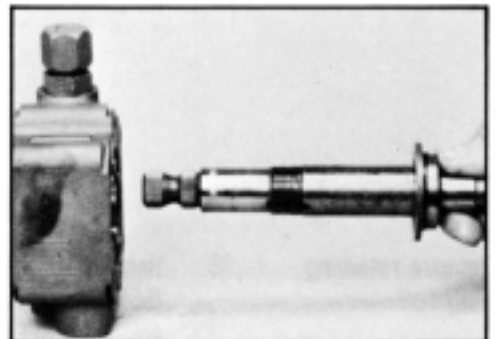

Figure 79
32. Carefully remove valve assembly (15) intact from worm shaft (23) and set aside for inspection and assembly procedures. SEE FIGURE 79.